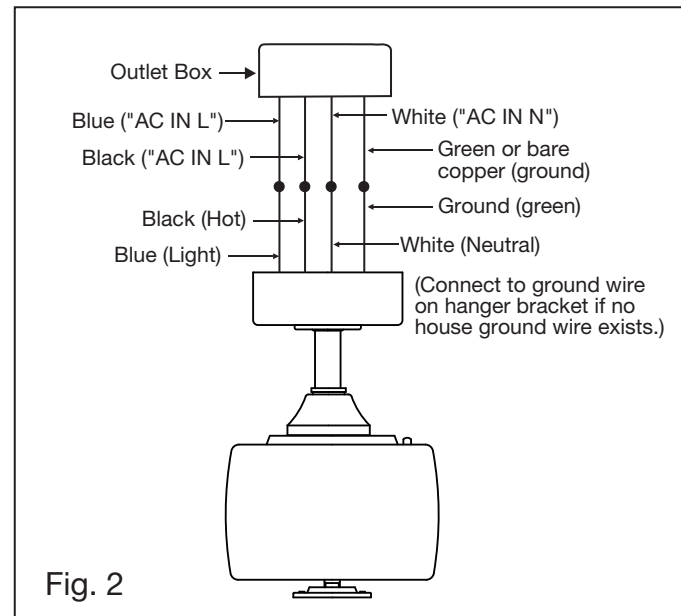

Fig. 2
- 3 Loosen the two security set screws and remove the downrod pin instead of hitch pin from the coupling on top of the motor assembly. (Fig. 2)
- 1 Connect the fan supply (black) wire to the black household supply wire as shown in Figure 2.
- 2 Connect the fan supply (blue) wire to the blue household supply wire as shown in Figure 2.
- 3 Connect the neutral fan (white) wire to the white neutral household wire (Figure 2).
- 1 Remove one of the three screws on the adapter plate located on the fan motor. Loosen the other 2 screws. (Do not remove) (Fig. 2)
- 2 While holding the LED assembly under your fan, make the polarized plug connections: (Fig. 2)